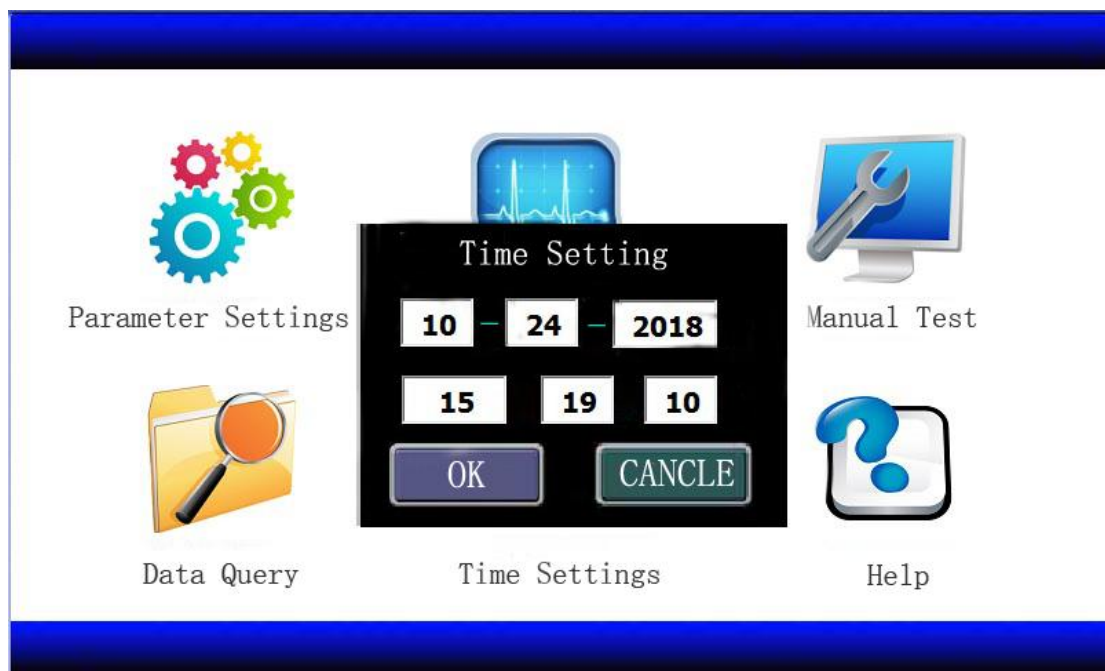

Figure 21
2.2.9 Time Settings : Click "Time Settings" in the main interface to enter the time setting interface as shown in Figure 21. At this time, you only need to set according to the correct date and